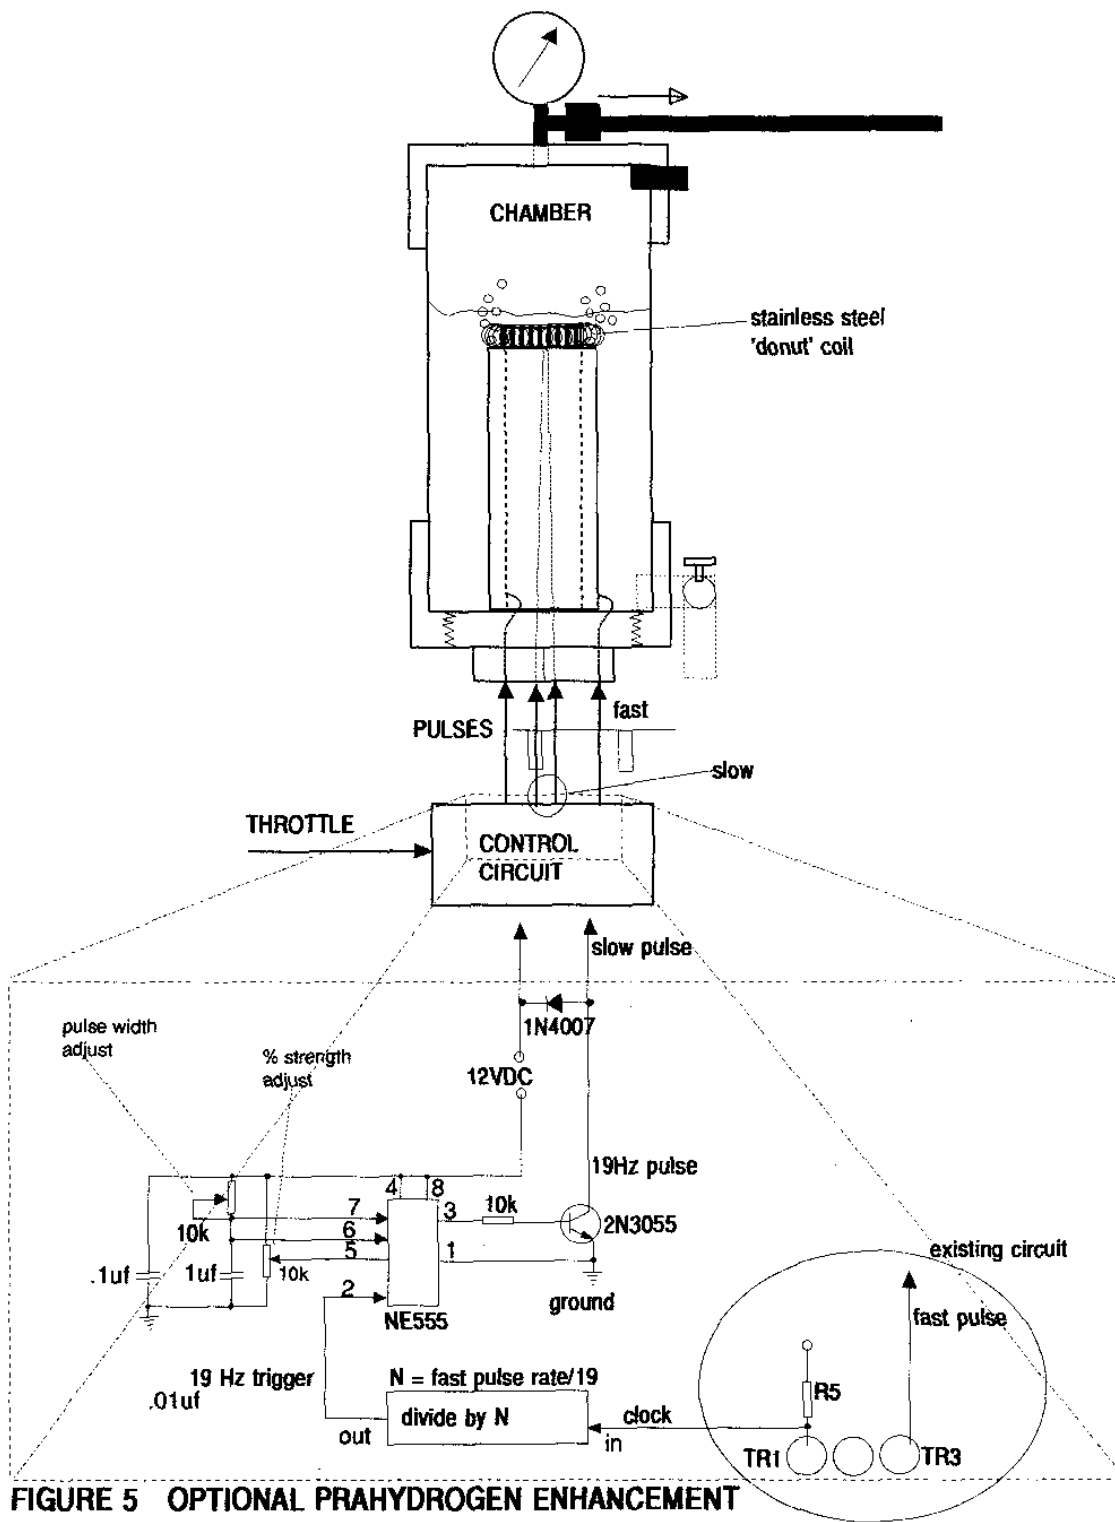

FIGURE 5 OPTIONAL PRAHYDROGEN ENHANCEMENT
1. If you just don't get enough power (at any throttle setting), it means that you need to (1) change the pulse frequency, (2) change the gap between the electrodes, (3) change the size (bigger) electrodes, OR (4) make a higher output pulse voltage (last resort). Always use an output transistor, such as a MOSFET, that is rated for the voltage and current you need to get the job done. OK so you might have to play around with it some. Isn't that where all the Fun is anyhow?
2. If you get ANY engine knock or loud combustions (not compensated by adjusting the timing), it means that you need to install an additional coil in the chamber, and drive the coil with an additional pulse signal (about 19 Hz on the .1sec time base) (see Figure 5).